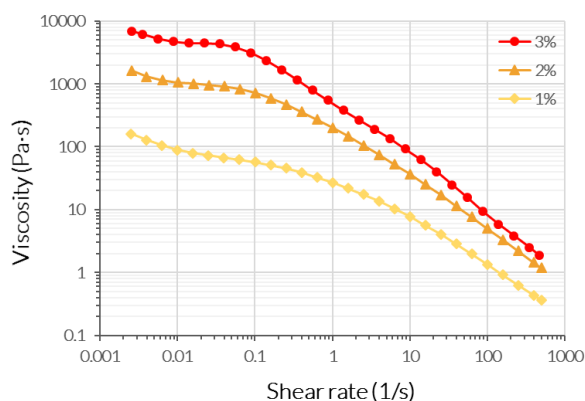

Figure 1. Viscosity of CELLINK Glucomannan dissolved in PBS at different concentrations over a shear rate range of 0.002 to 500 s^{-1} , 25°C.
- See Figure 1 for difference in viscosity of glucomannan gels of different concentrations.